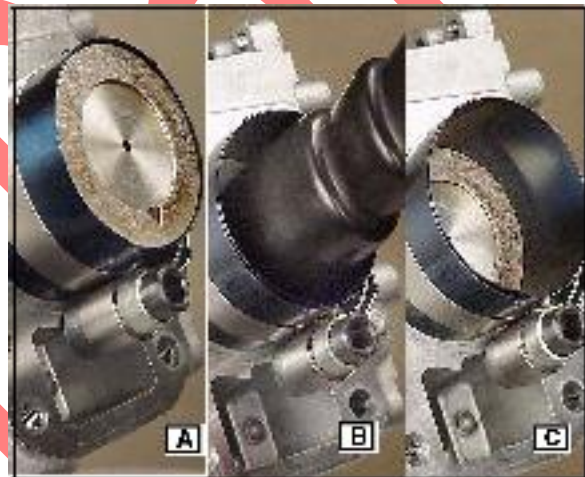

Fig. 21
Set piston and compressor assembly ([A] Fig. 21) on cylinder. Be careful not to scratch the surface of the bore with the connecting rod.
Push the piston down through the ring compressor and into the cylinder (B) until piston is in cylinder bore ([C] Fig. 21).